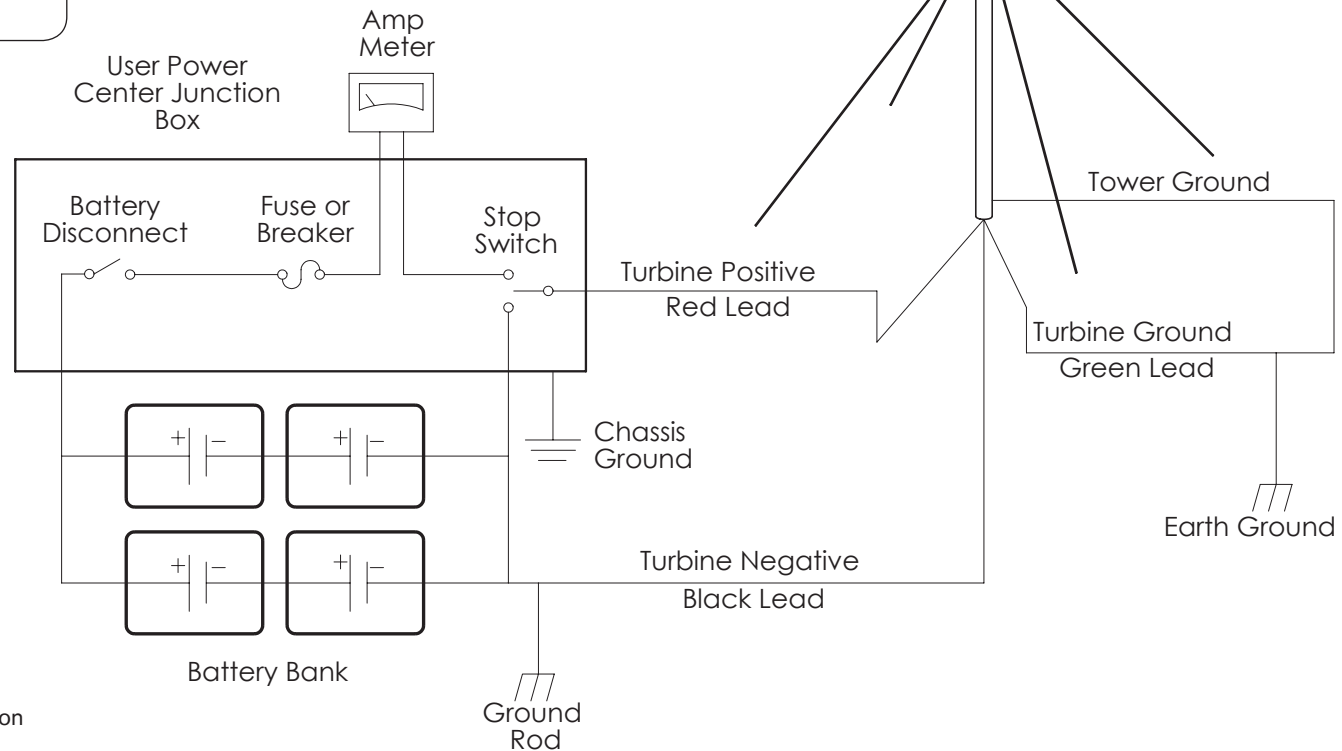
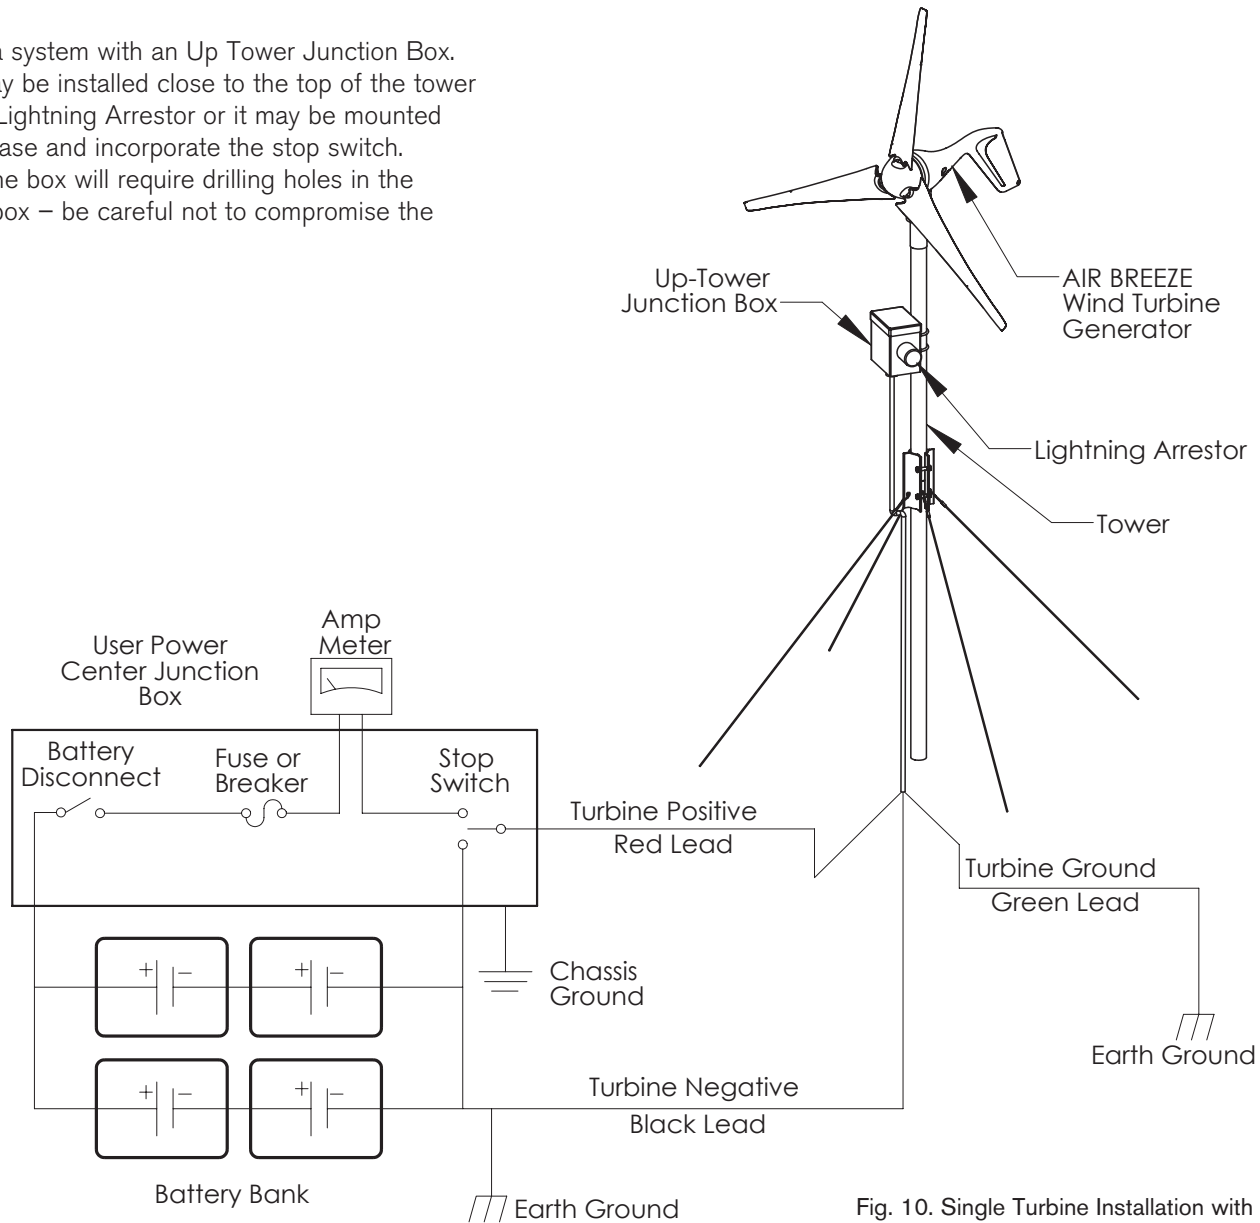

Fig. 9. Single Turbine Installation
Fig. 10. Single Turbine Installation with Up-Tower Junction Box
The recommended way to connect the turbine to your battery bank is to wire the turbine directly to its own set of battery posts. This will allow the turbine to operate independently. The Air Breeze's internal regulator will monitor the battery and maintain the charge as necessary. **Figs. 9 and 10** represent typical single turbine installations. **Fig. 10** includes an up-tower junction box for UL (Underwriters Laboratory) compliance. Contact Southwest Windpower for more information about this configuration.
**Fig. 10** represents a system with an Up Tower Junction Box. The junction box may be installed close to the top of the tower to ease installing a Lightning Arrestor or it may be mounted close to the tower base and incorporate the stop switch. Typically installing the box will require drilling holes in the tower to install the box – be careful not to compromise the tower strength.
The following section (5-8) describes grounding the tower in detail. To ground the Air Breeze turbine body, connect the Air Breeze ground (green) conductor to the tower ground rod. Alternately the ground (green) conductor may be connected to the negative (black) conductor in which case it will be grounded through the battery bank ground rod. Refer to figures 9 through 12.